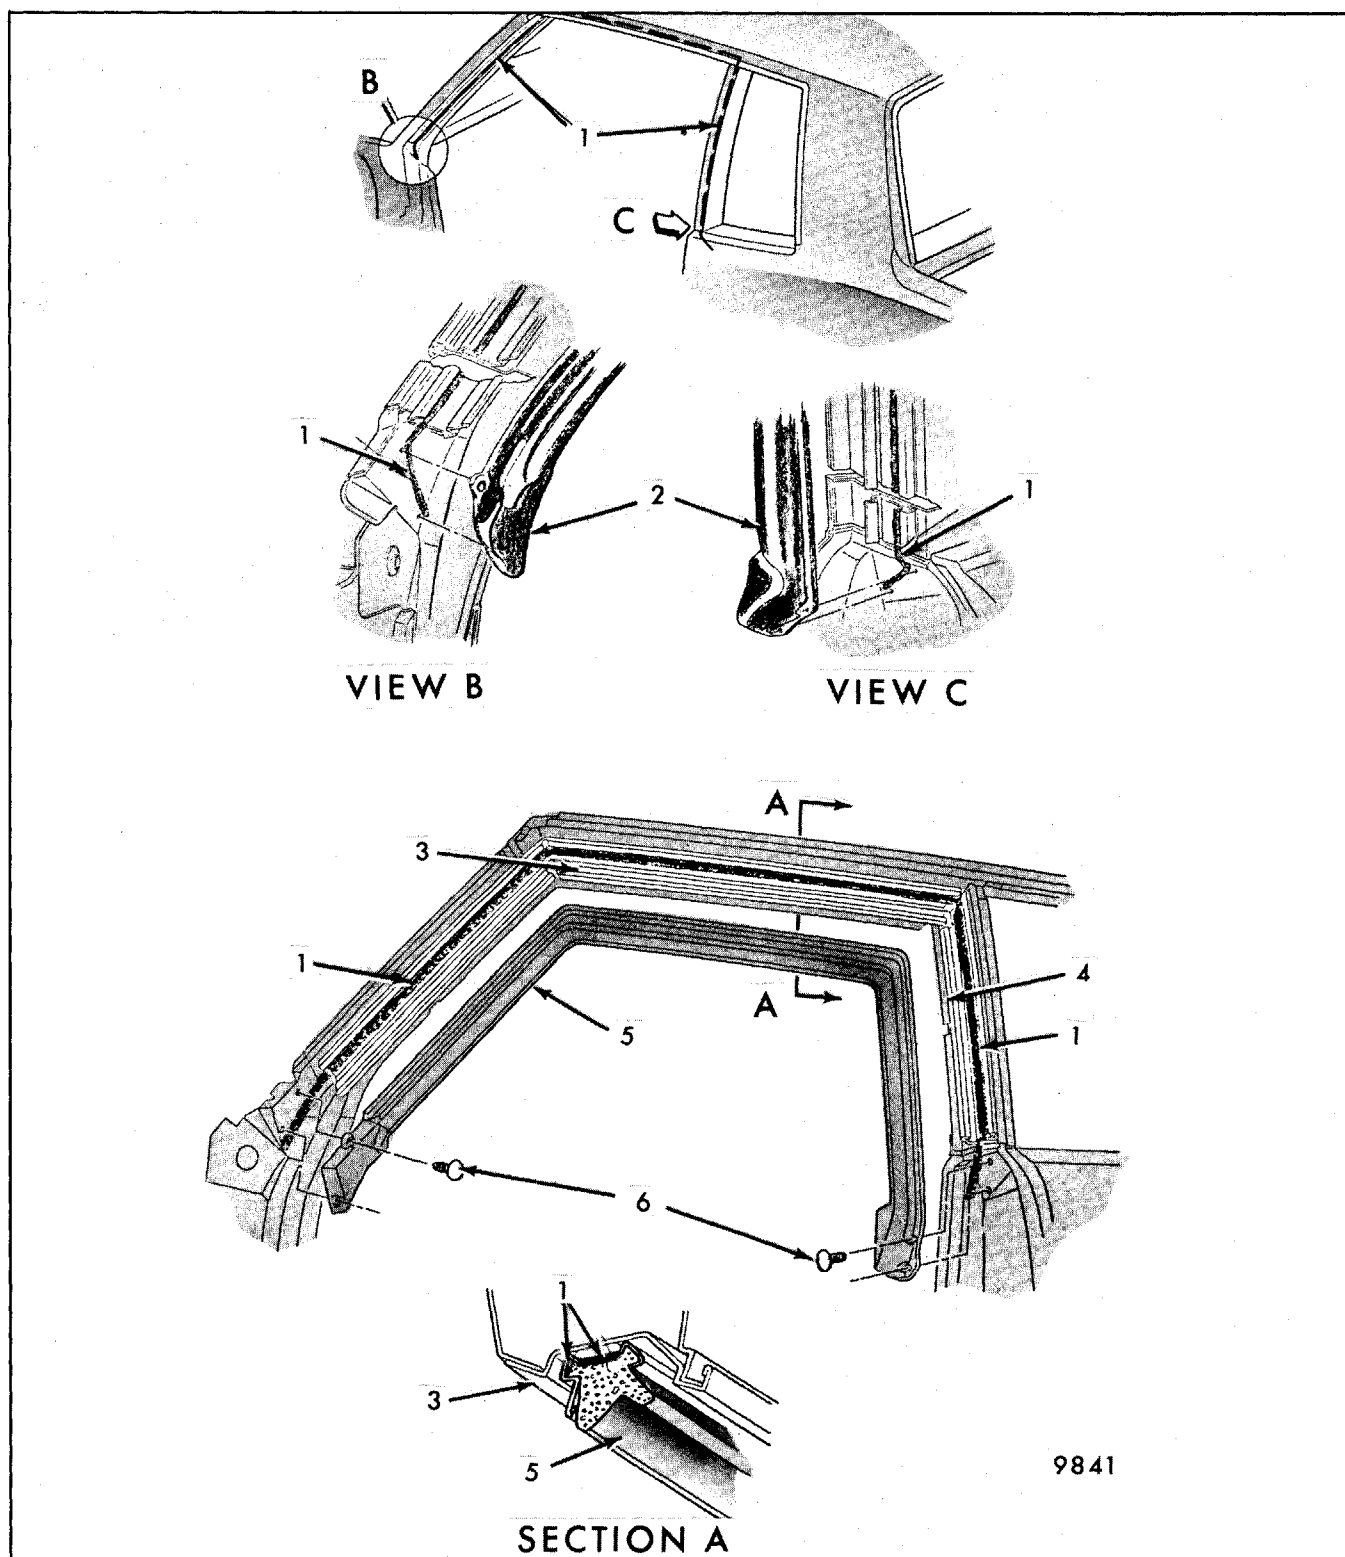

Fig. 5-39-Side Roof Rail Weatherstrip and Weatherstrip Retainer - A-37 Style Shown, Other Styles Similar
The side roof rail weatherstrip is sealed to a weatherstrip retainer which, in turn, is sealed to the body by a nitrile foam material bonded to the retainer. Additional pumpable sealer is applied in corner areas to assure a good seal against air and water. Plastic fasteners retain the ends of the weatherstrip to the body (Fig. 5-39).
NOTE: Major retainer adjustments will require resealing retainer to body at upper corners of retainer(s) and full length of body lock pillar retainer (4, Fig. 5-39) as described in step 2 of weatherstrip installation procedure.
1. Remove plastic fasteners at front and rear of side roof rail weatherstrip (Fig. 5-39 is typical of all styles at front hinge pillar) with tool J-21104 or equivalent.
4. Apply a continuous bead of black weatherstrip adhesive (1, Fig. 5-39) to inboard flange and outboard surface of weatherstrip retainers (3, 4, Fig. 5-39). Then apply black weatherstrip adhesive to the front and rear end details of the side roof rail weatherstrip (refer to view B and view C of Fig. 5-39).
5. Position front end of weatherstrip to body and install plastic nail fasteners. Using a flat-bladed tool, engage weatherstrip with retainer, inboard lip first, then outboard lip (refer to Section A, Fig. 5-39).
NOTE: Replacement plastic nail fasteners (6 Fig. 5-39) are available as a service part.